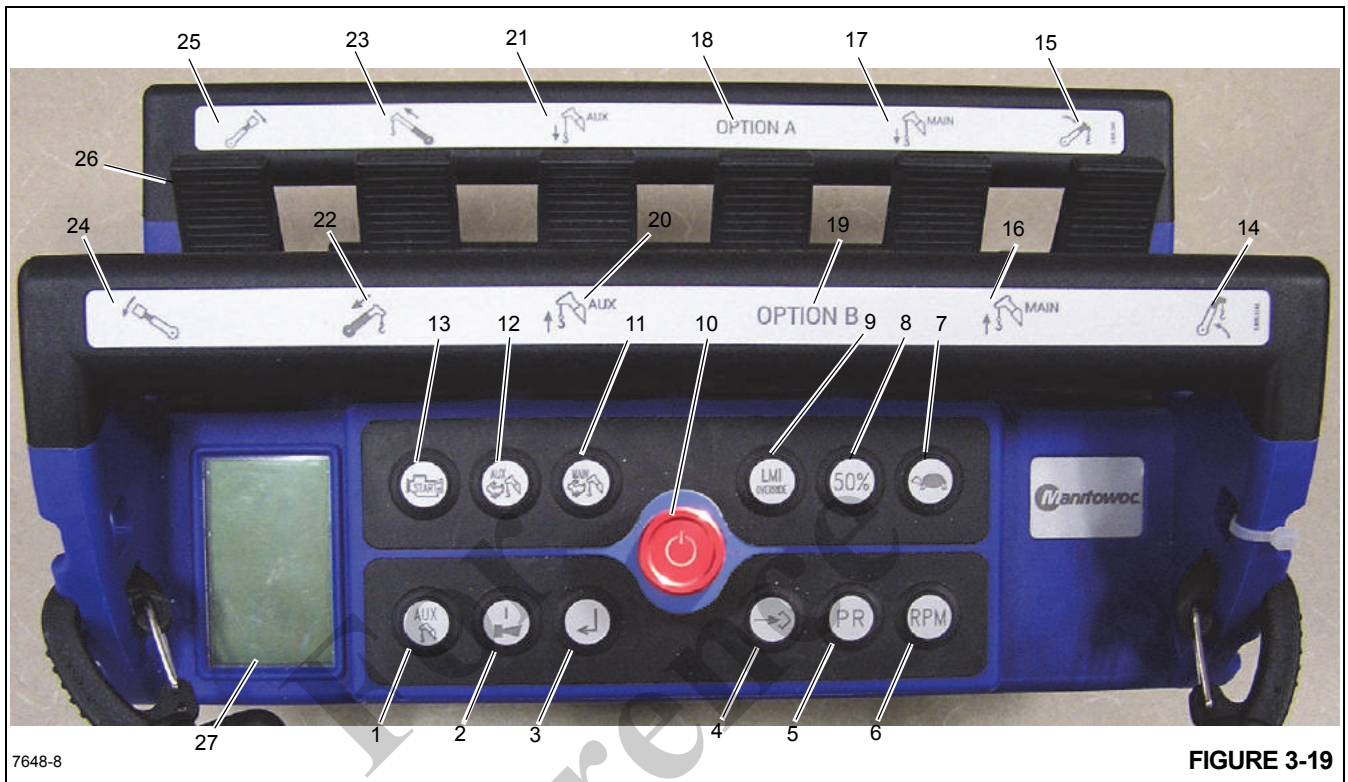
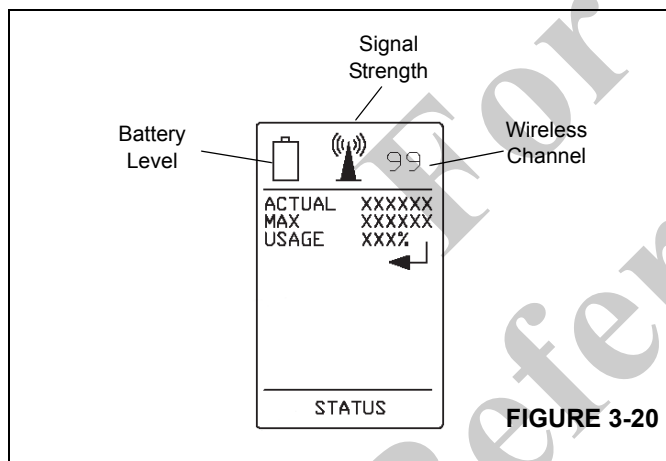

FIGURE 3-19
FIGURE 3-20
If your crane is equipped with the optional Full Crane Remote Control (Figure 3-19), [large dark blue remote control supplied with a waist strap], see the Radio Remote Options manual for operating instructions.
Once finished using this remote, it can be stored and charged in the 12V charging base located in the crane cab on the load chart manual holder (1, Figure 3-20).
The optional Crane Remote Control (Figure 3-19) will allow full remote control of the crane. The standard Remote Control is disabled when using the optional Crane Remote Control.
The LCD Screen (27, Figure 3-19 and Figure 3-20) on the display is used to communicate signal strength, battery level, wireless channel, remote status, and the configuration of the crane based upon which buttons are depressed. RCL information is also displayed to the operator and can be toggled by pressing the Toggle Crane RCL Screen button (3). The following RCL information is available to the operator on the LCD screen:
To use this remote, the red STOP button (10, Figure 3-19) must be pressed to turn on the transmitter.